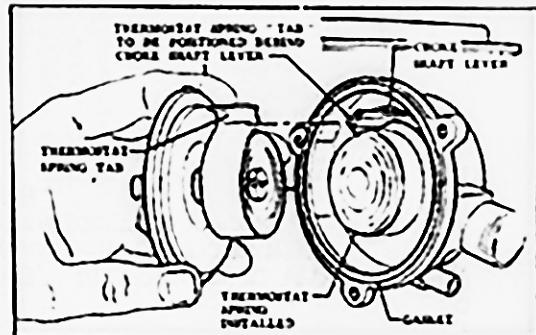

Figure 4
- E. Install new Cover and Thermostat Spring Assembly using original gasket, making sure that the tang of the spring will pick up the Choke Shaft Lever when the pointer is rotated clockwise to the index mark. See Figure 4. When performing this operation, the cross shaft must be in the hot idle position - not riding against the fast idle cam.